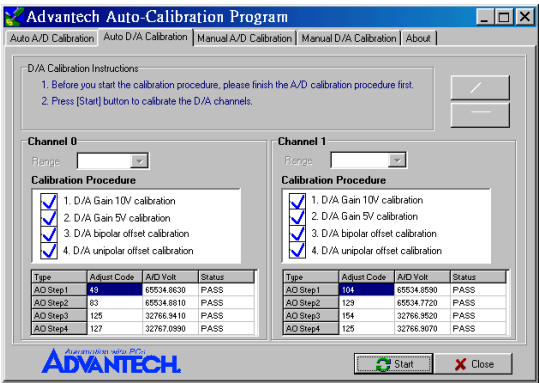

Figure 5-14: D/A Calibration is finished
Step 12: Auto-calibration is finished (Fig. 5-14)